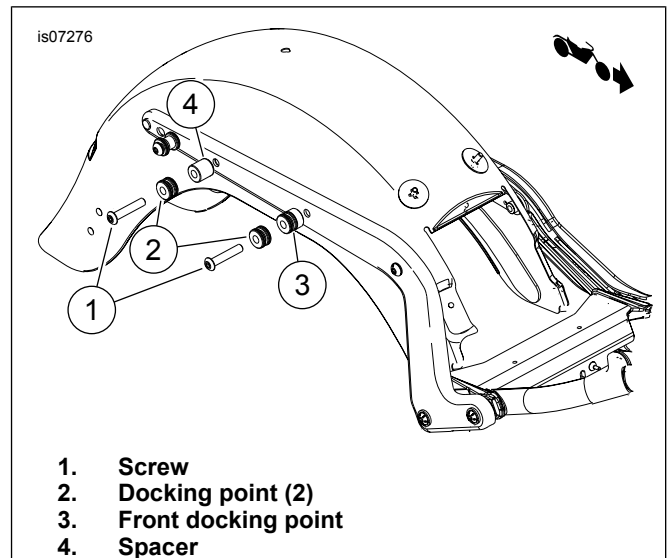

Figure 4. Docking Point Installation (With Other Detachable Accessories)
With Other Detachable Accessories: See Figure 4. Insert screws (1) through mini docking points (2) and front docking point (3) and rear spacer (4). Install screws into fender support mounting bracket (inside fender). Tighten screws to 28–36 N·m (21–27 ft-lbs).